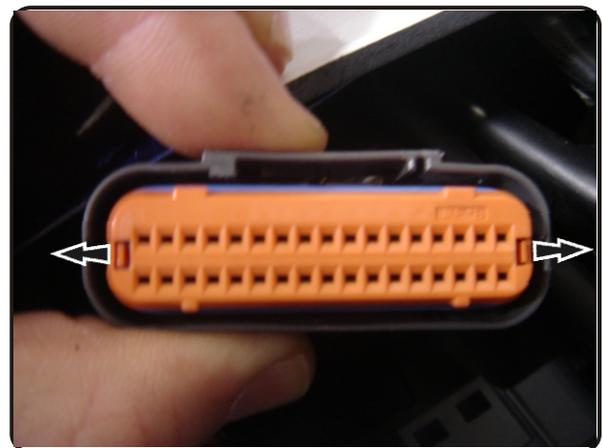

Fig. 3
- 4 Remove the orange cap on the grey wire harness plug by pressing the small orange tabs apart and pulling the orange cap off (See Fig. 3).